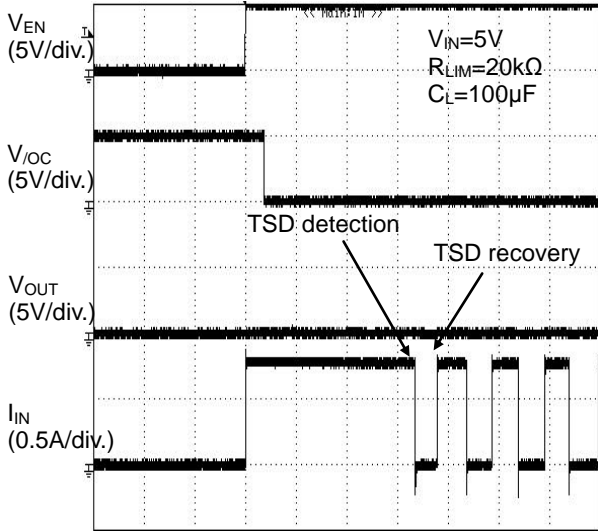

Figure 41. Over Current Response Enable Into Short Circuit (BD2244G-M)
(1) When the switch is turned on while the output is in short circuit status, the switch gets into current limit status immediately. (See figure 41)